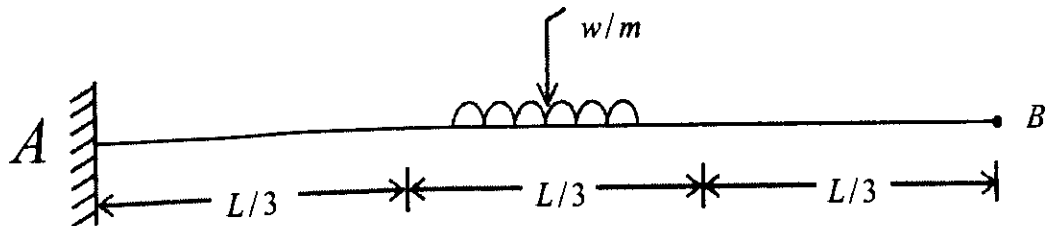

Fig.2
- (b) Determine the angle of rotation and deflection at free end of a cantilever beam AB with a uniform load  $w$  acting over middle third of the length as in Fig 2. [8]